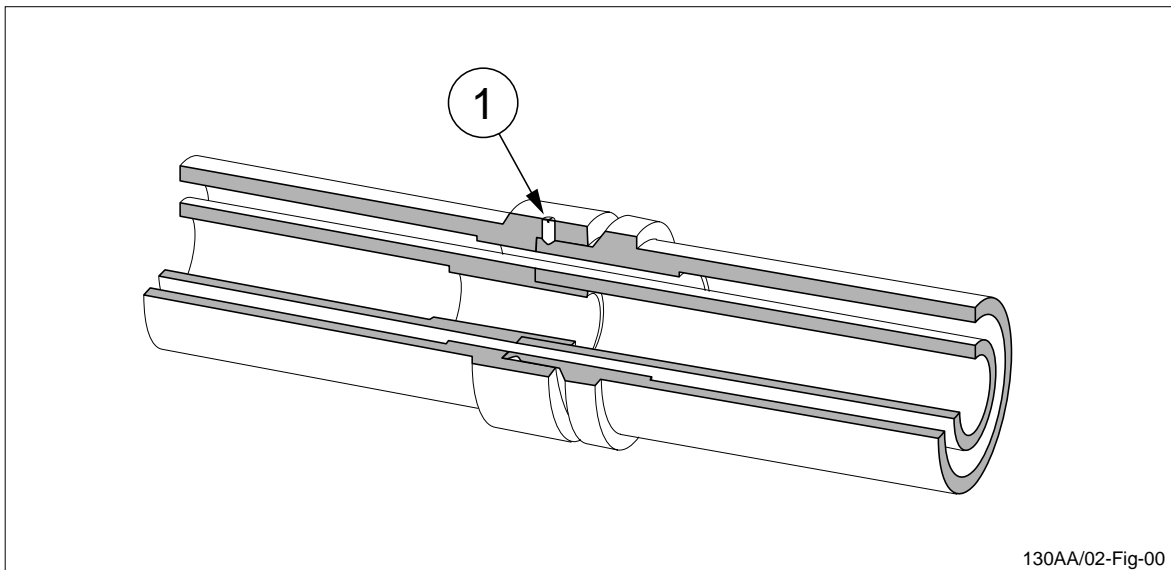

Figure 3 The twin tube joint is screwed together and locked into position by a set screw.
- All joints must be cleaned and tightened until the set screw can be installed in the pre-drilled holes, see figure 2 and figure 3. Use loctite to secure the set screw.